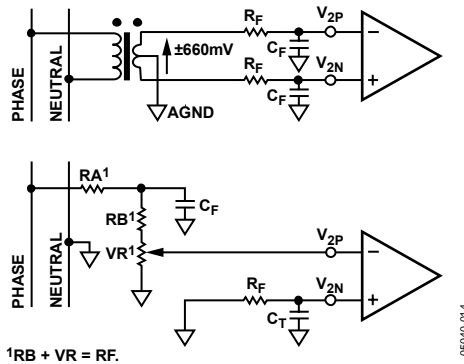

Figure 16. Typical Connection for Channel 2
Figure 16 shows two typical connections for Channel V2. The first option uses a potential transformer (PT) to provide complete isolation from the main voltage. In the second option, the ADE7761A is biased around the neutral wire, and a resistor divider is used to provide a voltage signal that is proportional to the line voltage. Adjusting the ratio of RA and RB + VR is a convenient way to carry out a gain calibration on the meter.